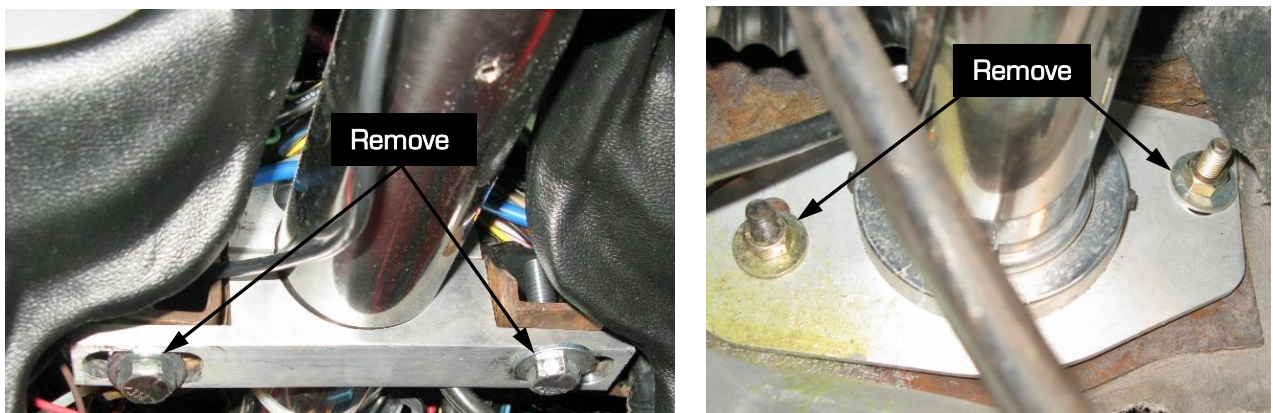

Figure 26 – Remove Steering Column Hardware
24. Remove the 2 bolts holding the steering column to the support brace, Remove the 2 carriage bolts from the lower part of the column (Figure 26). **NOTE:** The steering column used in the pictures below is from an aftermarket column.